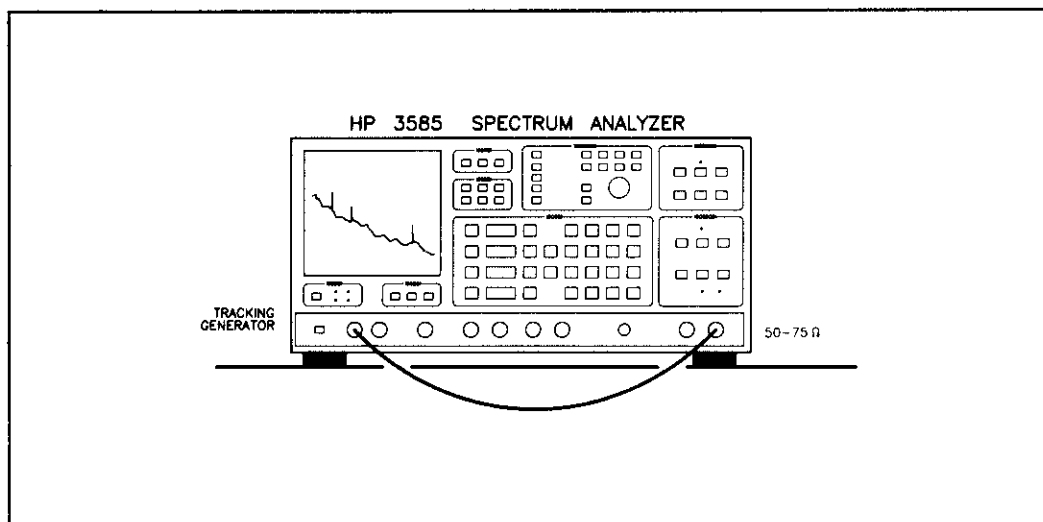

Figure 30. Fourth Option 2 Calibration Setup
15. Connect the instruments as shown on the display and in figure 30. This sets up a 50Ω reference for the following measurements.